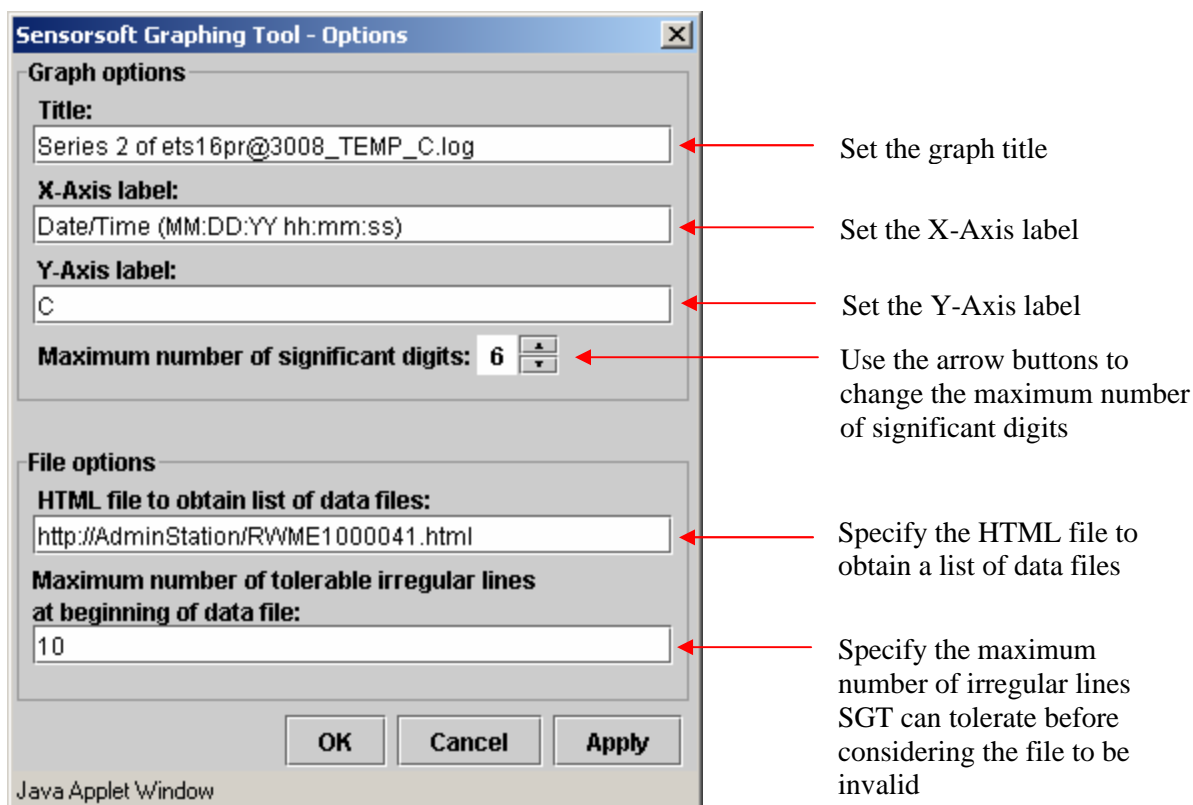

Figure 9
3. In the Options dialog, edit the field corresponding to the text label that you want to change (see Figure 9).
2. In the Options dialog, change the “Maximum number of significant digits” field by using the arrow buttons beside it (see Figure 9).
2. In the Options dialog, set the “HTML file to obtain list of data files” field to the URL of the HTML file (see Figure 9).
2. In the Options dialog, set the “Maximum number of tolerable irregular lines at beginning of data file” field to a higher value (see Figure 9). You can make SGT tolerate an unlimited number of irregular lines by setting this field to -1.